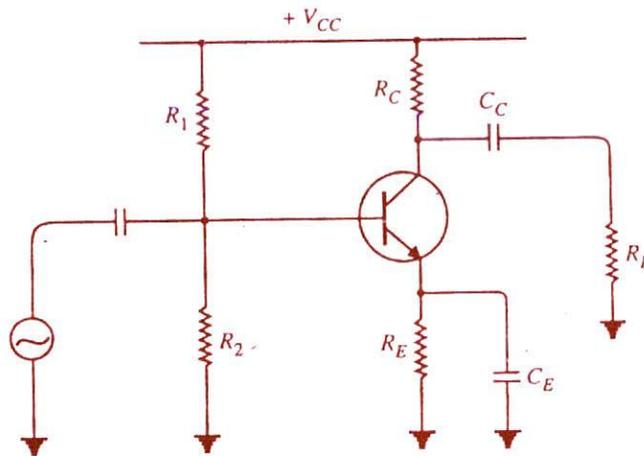

Fig. 12.33
3. Fig. 12.33 shows the transistor amplifier. If  $R_C = 4 \text{ k}\Omega$ ,  $R_E = 5 \text{ k}\Omega$  and  $V_{CC} = 30 \text{ V}$ , draw the d.c. load line.
4. Find the operating point for Fig. 12.33,  $V_{CC} = 30 \text{ V}$ ,  $R_1 = 20 \text{ k}\Omega$ ,  $R_2 = 20 \text{ k}\Omega$ ,  $R_C = 4 \text{ k}\Omega$ ,  $R_E = 5 \text{ k}\Omega$ . [13.2V, 1.85mA]
5. For the circuit shown in Fig. 12.33, find the voltage gain if  $\beta = 100$ ,  $R_C = 3 \text{ k}\Omega$ ,  $R_L = 6 \text{ k}\Omega$  and  $R_{in} = 2 \text{ k}\Omega$ . [100]
6. In the circuit shown in Fig. 12.33,  $V_{CC} = 30 \text{ V}$ ,  $R_1 = 2 \text{ k}\Omega$ ,  $R_2 = 1 \text{ k}\Omega$ ,  $R_C = 2 \text{ k}\Omega$ ,  $R_L = 2 \text{ k}\Omega$ ,  $R_E = 1 \text{ k}\Omega$ . Draw the d.c. and a.c. load lines.